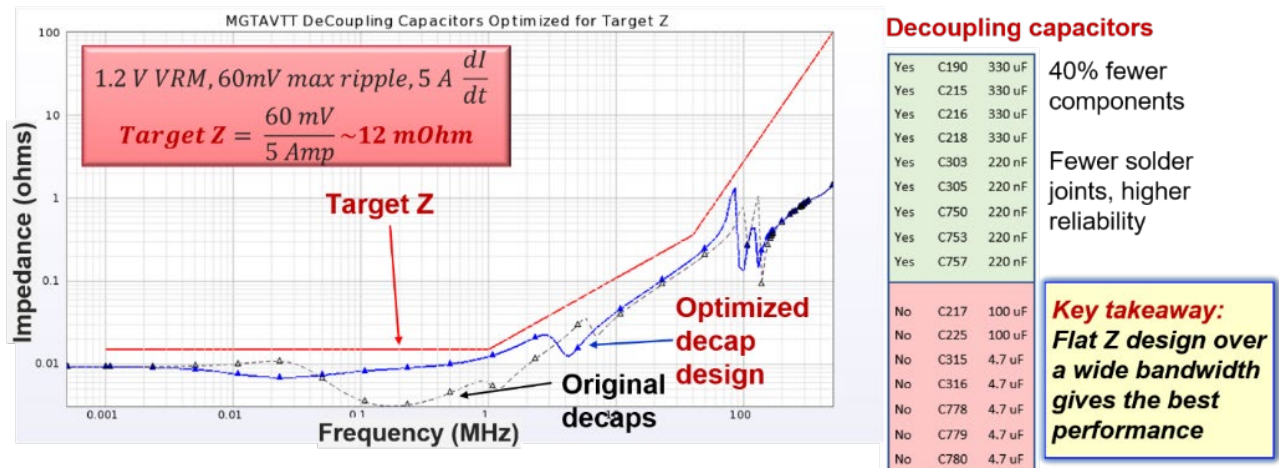

Figure 1. In this FPGA example, 60 mV ripple divided by 5 A gives a target impedance of 12 mΩ
Power integrity (PI) engineers use target impedance to design power delivery across a broad frequency range. Target impedance is a simple estimate using the maximum allowed ripple divided by the maximum expected current step load. For example, in a field programmable gate array (FPGA) where the max ripple is 60 mV and the max current step load is 5 A, the target impedance (Z) is 12 mΩ (Figure 1).
Figure 1 shows a plot of the impedance versus frequency for a 1.2 V power rail with the target impedance mask in red. The Target Z in red shows the flat region where the power supply and printed circuit board (PCB) PDN must deliver power to the load. The first breakpoint, around 1 MHz, shows the frequency at which the internal package / die capacitance is starting to provide power to the load. The second breakpoint shows that the spectral content of the load is rapidly diminishing with frequency. Higher PDN impedances are allowed as the load di/dt goes to zero.